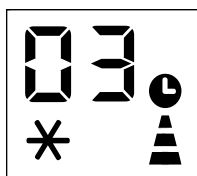

Fig. 3
- Press the ⏰ button, the screen will display 1-24 hours, and the * symbol and ⏰ symbol and ⏰ symbol are flash together.(fig 3)